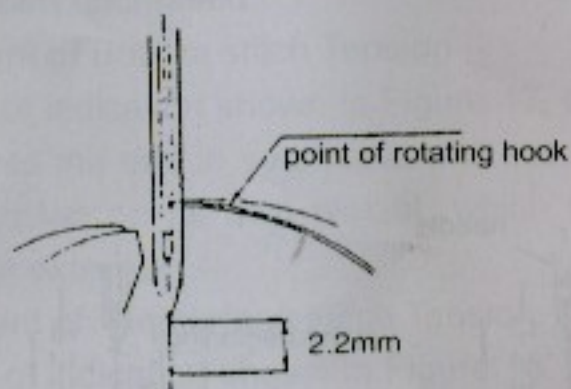

Figure 20
(1) Manually so to raise the needle (In case of double curvilinear stitches, the needle is referred to the one on the right side, The same below) by 2.2mm from fht lower limit, when the point of rotating shuttle would be at the central line of the needle. (See Figure 20)